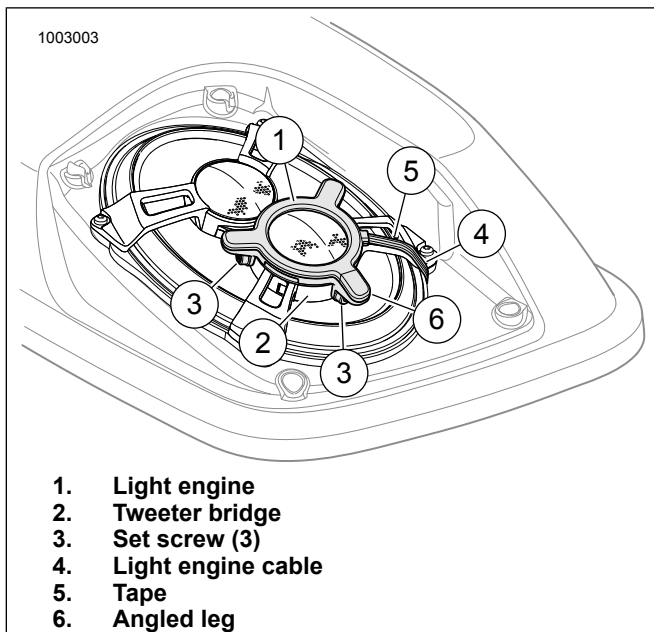

Figure 5. Light Engine Installation
See Figure 5. Place light engine (1) on tweeter bridge (2). Lightly compress light engine in place.